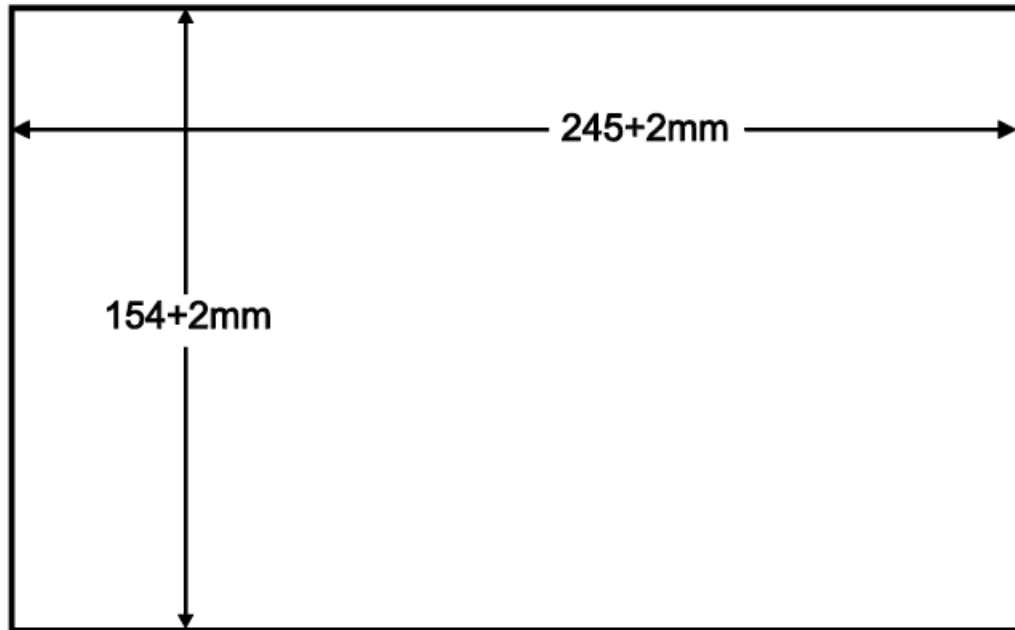

Figure 9: Cut out Dimensions
3. Following the inside edge of the template, cut a hole in the table surface with a sabre or keyhole saw according to the dimensions shown in Figure 9 (not to scale).